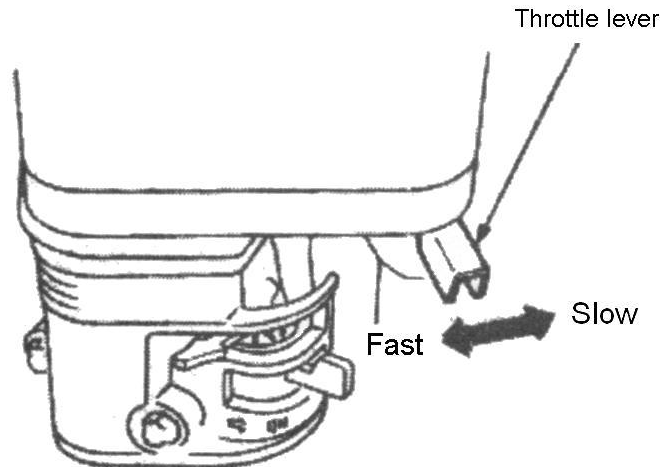

Figure 12. Throttle Lever
4. Place the **throttle lever** (figure 12) halfway between fast and slow.